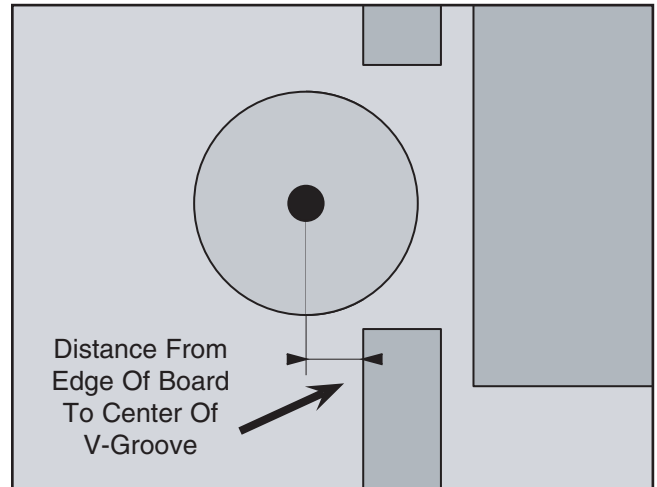

Figure 18. Groove cutting setup.
4. Adjust the main fence until the center of the V-groove bit is the desired distance away as shown in **Figure 18 & 19**.